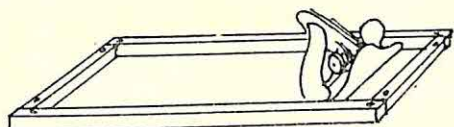

Figure 6
*Planes* are best stored flat on a bench. Nail or screw thin pieces of wood to prevent them from slipping (see Figure 6).